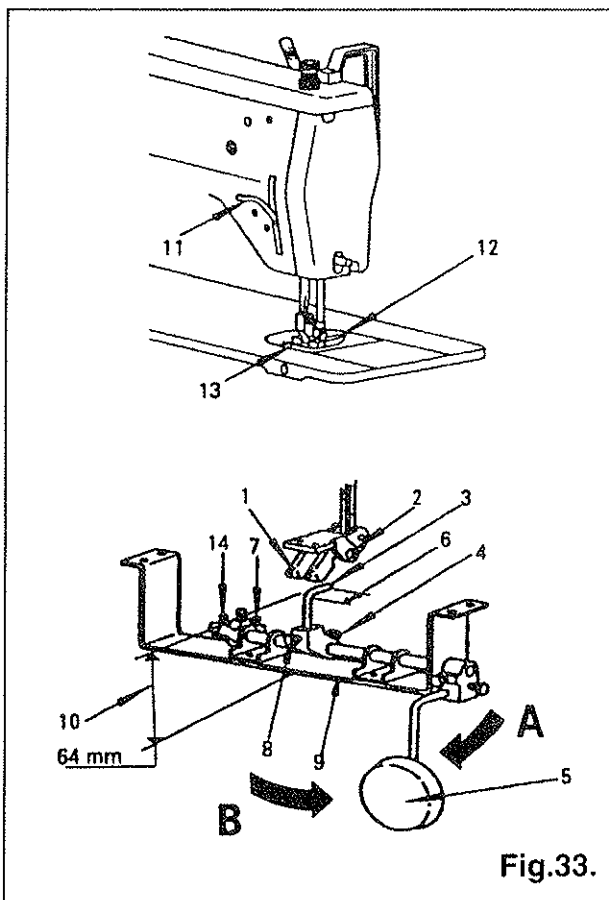

Fig.33.
Bell cranks (1) and (2) shown in Fig.33 are fastened to the underside of the bed. Bell crank (1) is used for lifting and lowering the presser foot with knee, and bell crank (2) is used for controlling the stitch width (see Fig.33).
To raise or lower the presser foot with knee, loosen screw (4) holding the knee lifter shaft arm (3) and move knee lifter shaft arm (3) just under the bell crank (1), and firmly tighten screw (4) (see Fig.33).
Loosen the lock nut holding screw (7) and turn screw (7) as required, so that the bent end (6) of knee lifter shaft arm (3) will be almost horizontal when knee lifter knee plate (5) is pushed as far as it will go in the direction indicated with arrow (A), then firmly tighten the lock nut (see Fig.33).
With knee lifter shaft arm (3) set in position as described above, loosen screw (8) and move knee lifter shaft arm (3) up or down as required, so that height (10) from its bent end (6) to bracket (9) is 64 mm (see Fig.33).
Raise presser foot (12) with presser foot lifter (11). Then loosen the lock nut holding screw (14) and turn screw (14) as required, so that knee lifter knee plate (5) when pushed in the direction indicated with arrow (B), will stop at a point (presser foot (12) raised approx.9 mm from throat plate (13) surface) where presser bar lifter (11) will drop down from its raised position when presser bar is lifted a little higher than its normal up position. Then firmly tighten the lock nut (see Fig.33).
When knee lifter knee plate (5) is pushed in the direction indicated with arrow (B), the presser foot (12) will rise and when knee plate (5) is released, presser foot (12) will be lowered (see Fig.33).